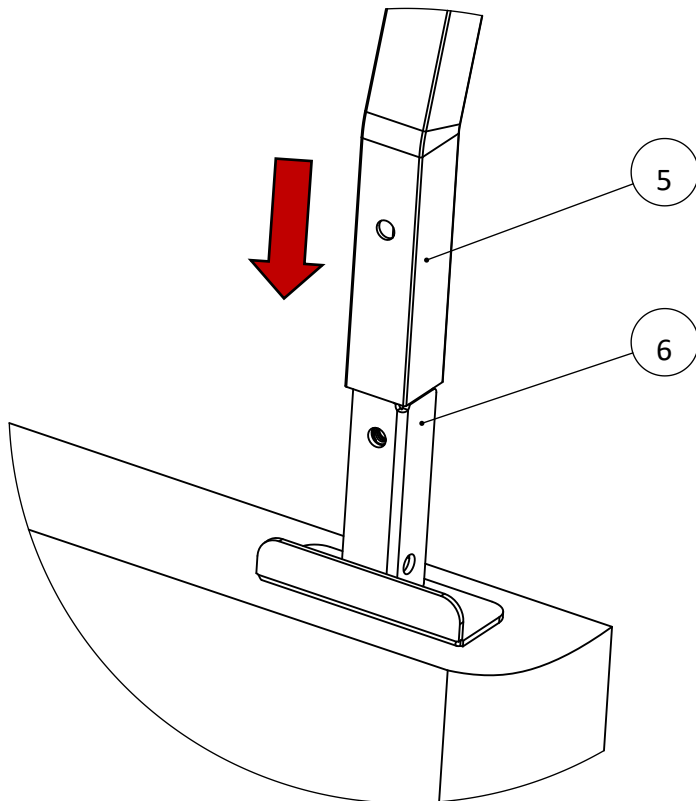

Figure 5
3. **Attach the Legs to the Bases.** Examine the Legs (**Item No. 5**) and notice the holes drilled on the outside of each leg. As shown in **Figure 5**, slide the leg down and align it so that its hole lines up concentrically with the hole found on the Base (**Item No. 6**).